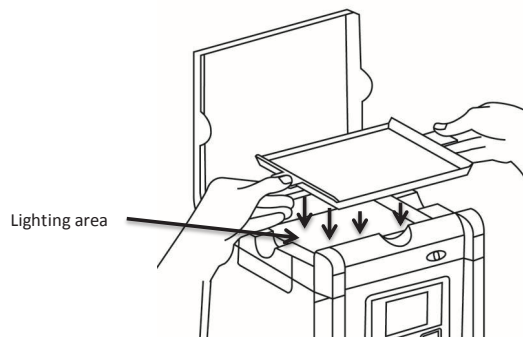

Figure 6
7. Place sample tray into the Lighting area of the system (**Figure 6**). Caution: Do not place the gel directly on the surface of the Lighting area. Fail to do so may lead LED damage caused by buffer leakage.
3. Place the sample tray back to the Lighting area of the scanner. **Caution:** Do not place the gel directly on the surface of the Lighting Area. Failing to use the tray may cause buffer leakage and damage the LED(**Figure 6**).